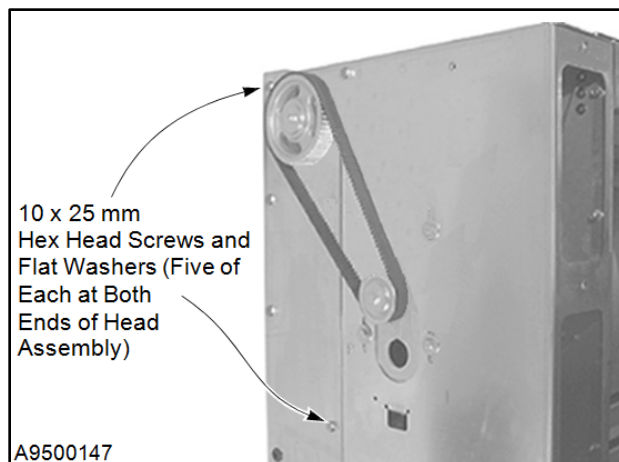

Figure 22
5. Inspect the hex head screws used to secure the head assembly to the side columns. Replace any missing or damaged hardware. (See Figure 22.)